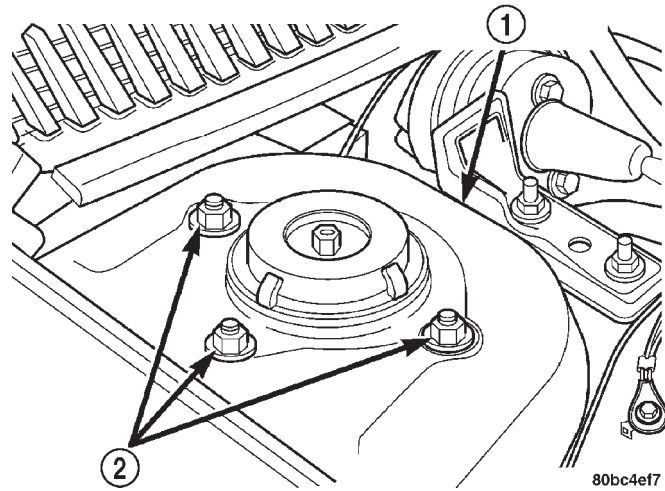

Fig. 6 Upper Mounting Nuts
(7) Lower the vehicle just enough to open the hood, but without letting the tires touch the floor.
(8) Remove the three nuts attaching the upper mount of the strut assembly to the vehicle's strut tower (Fig. 6).
(1) Install the strut assembly into the strut tower, aligning the three studs on the strut upper mount with the holes in strut tower. Install the three mounting nuts on the studs (Fig. 6). Tighten the three nuts to a torque of 34 N·m (300 in. lbs.).
(2) Close the hood of the vehicle.